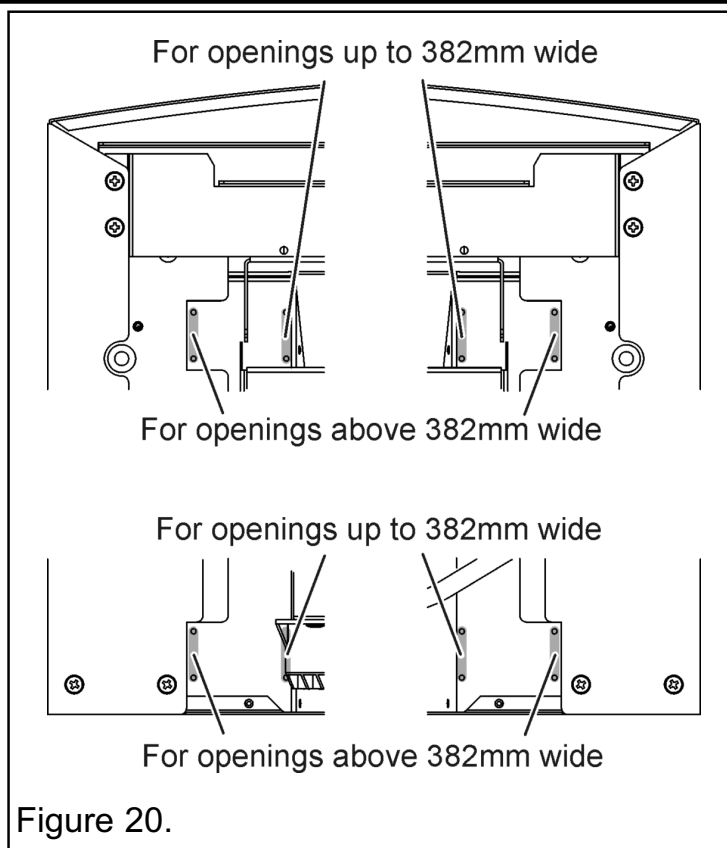
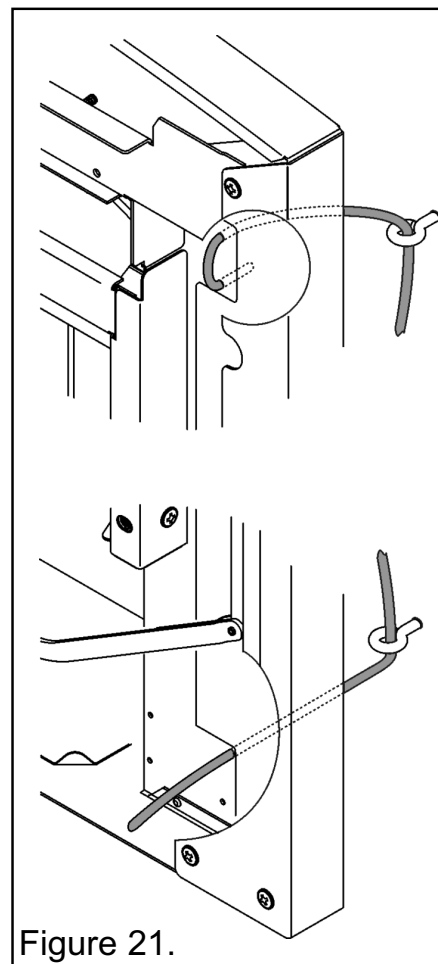

Figure 20.
Figure 21.
5. The fire has eight pairs of small holes for cable securing, only four will be used. For openings up to 382mm wide use the inner set of holes. For openings above this use the outer holes (See figure 20). Once the upper pairs of holes are selected, feed approximately 100mm of cable from the rear of the fire through the upper hole, then feed approximately 20mm of cable into the lower hole. Gently pull the upper cable from the rear of the fire to lock into place (See figure 21). Repeat this on both sides.
6. Thread the cables through the eyebolts in the rear wall. Return the cables through the selected hole near the bottom of the convection box (See figure 21).